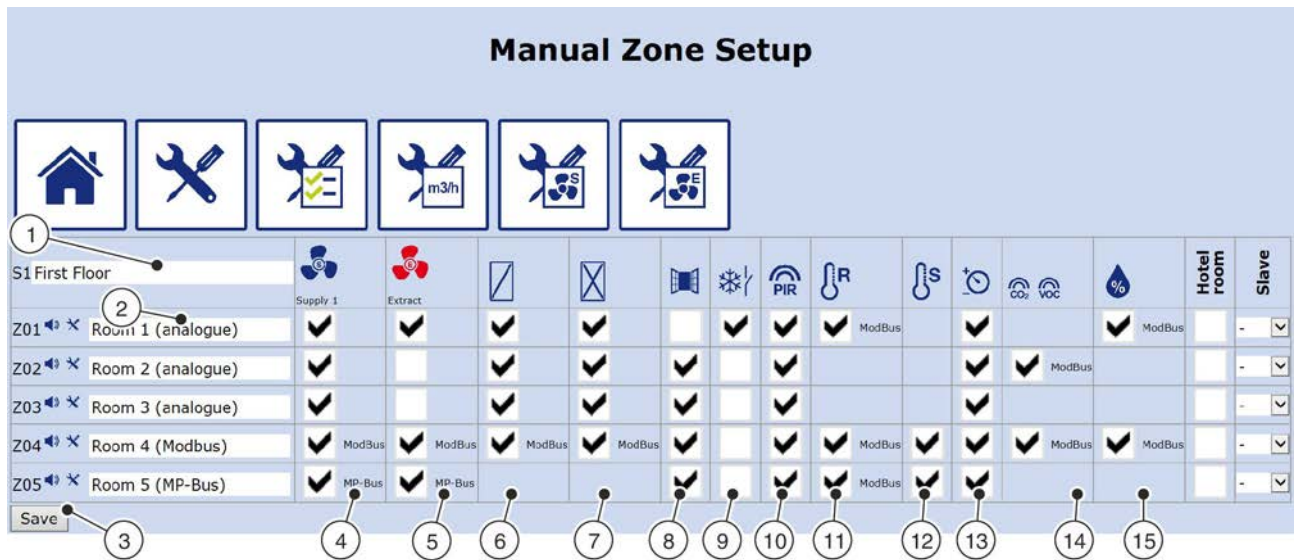

Fig. 33: Manual zone setup
The 'Zone Setup' screen (Fig. 33) allows you to configure the actuators and sensors that are connected to the zone modules. During operation the connected actuators and sensors are monitored such that hardware problems and connection errors will be detected.
3. ▶ Activate or deactivate actuators and sensors (Fig. 33 /4 –15) for individual zone modules.
4. ▶ Enter a name for each zone module (Fig. 33 /2).
5. ▶ Enter a name for the zone master (section) (Fig. 33 /1).
6. ▶ Click on 'Save' (Fig. 33 /3).